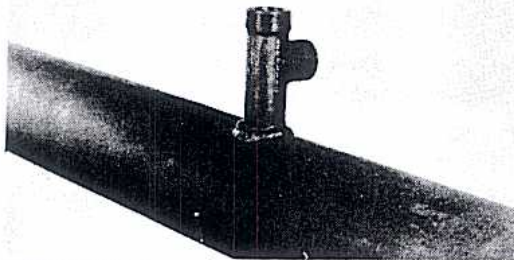

FIGURE 4
- 3a. For Tees having welding inlet. Place Tee in desired position and weld to pipe line. FIGURE 4.